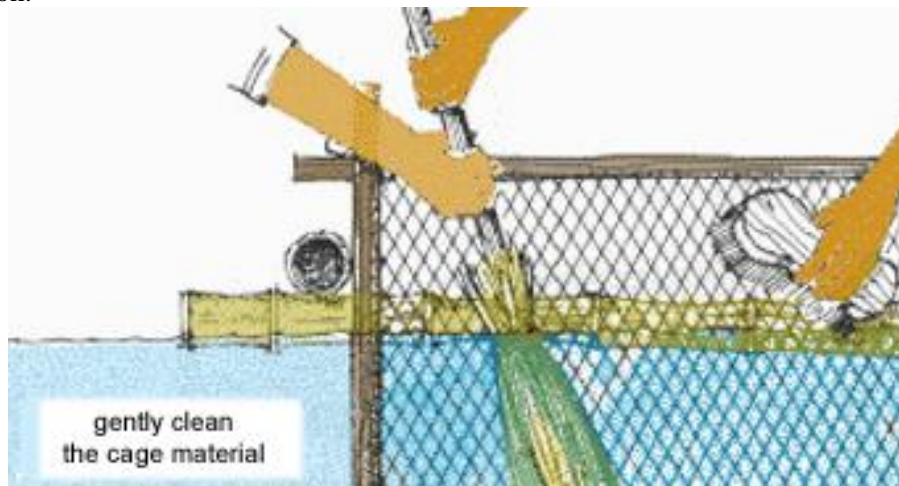

Figure 6-1: Cleaning cage net with a brush
- iv. The netting material should be cleaned with a brush or soft broom, if possible (Figure 6-1).